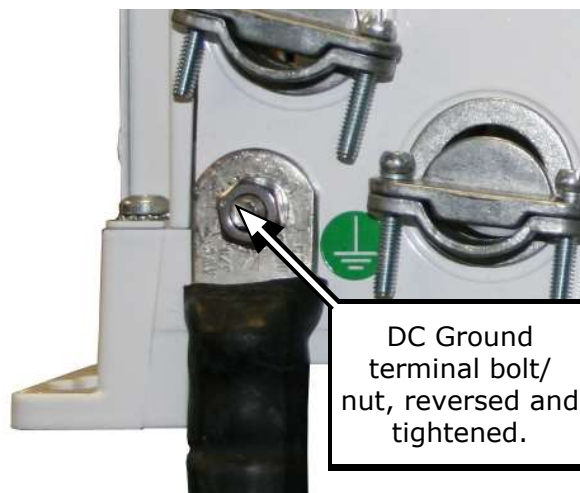

Figure 2-25, Connecting a Large DC Ground Wire
4. Reverse the removed bolt and place it back in the chassis hole to attach a correctly sized ground cable with a ring terminal to the MS Series chassis as shown in Figure 2-25.